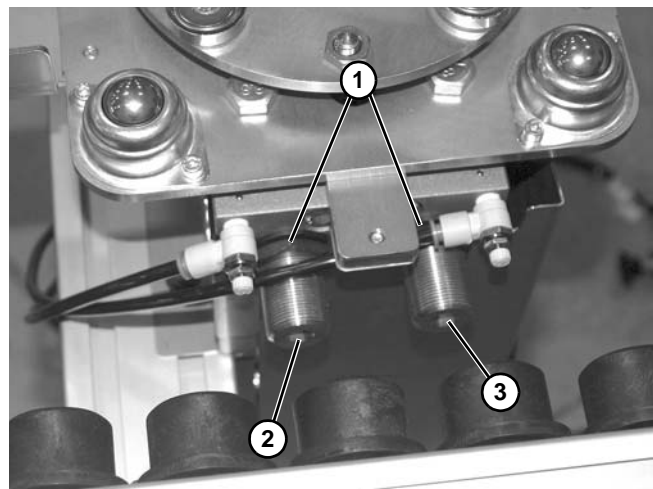

Figure 56
- Loosen nuts (**Figure 56, item 1**) with an open-end wrench.
- Adjust stroke by rotating screw (**Figure 56, item 2**) left or right with an open-end wrench. Adjust movement by rotating screw (**Figure 56, item 3**) left or right with an open-end wrench. Tighten nuts.